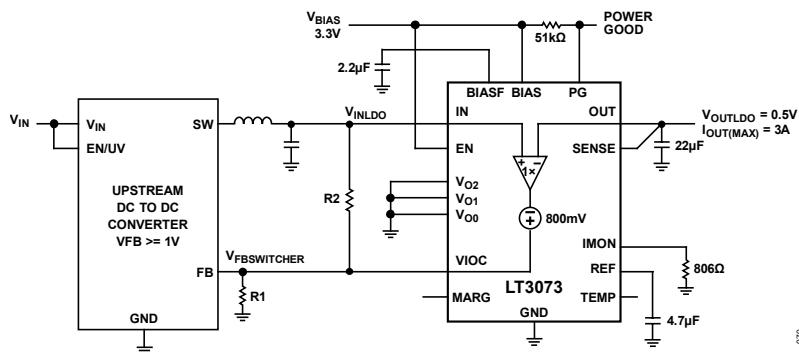

Figure 70. VIOC Basic Operation
The VIOC pin controls an upstream switching converter to maintain a constant voltage across the LT3073, regardless of the LDO's output voltage. This maximizes efficiency while maintaining PSRR performance. The VIOC pin is the output of a fast amplifier and equals to $(V_{\text{IN}} - V_{\text{OUT}}) + 800\text{mV}$. As shown in Figure 70, the VIOC feature is simple to use. In the case of $V_{\text{FB}} \geq 1\text{V}$, connect the VIOC pin to the upstream switching converter's feedback (FB) pin. This will regulate the LT3073's input-to-output differential to the switching converter's feedback voltage minus 800mV. When paralleling multiple LT3073s, connect the VIOC pin of one of the LT3073 to the upstream switching converter's feedback pin and float the remaining VIOC pin(s). When LT3073 is turned off, V_{INLDO} is clamped to a voltage set by $V_{\text{FBSWITCHER}} \times (R1 + R2)/R1$